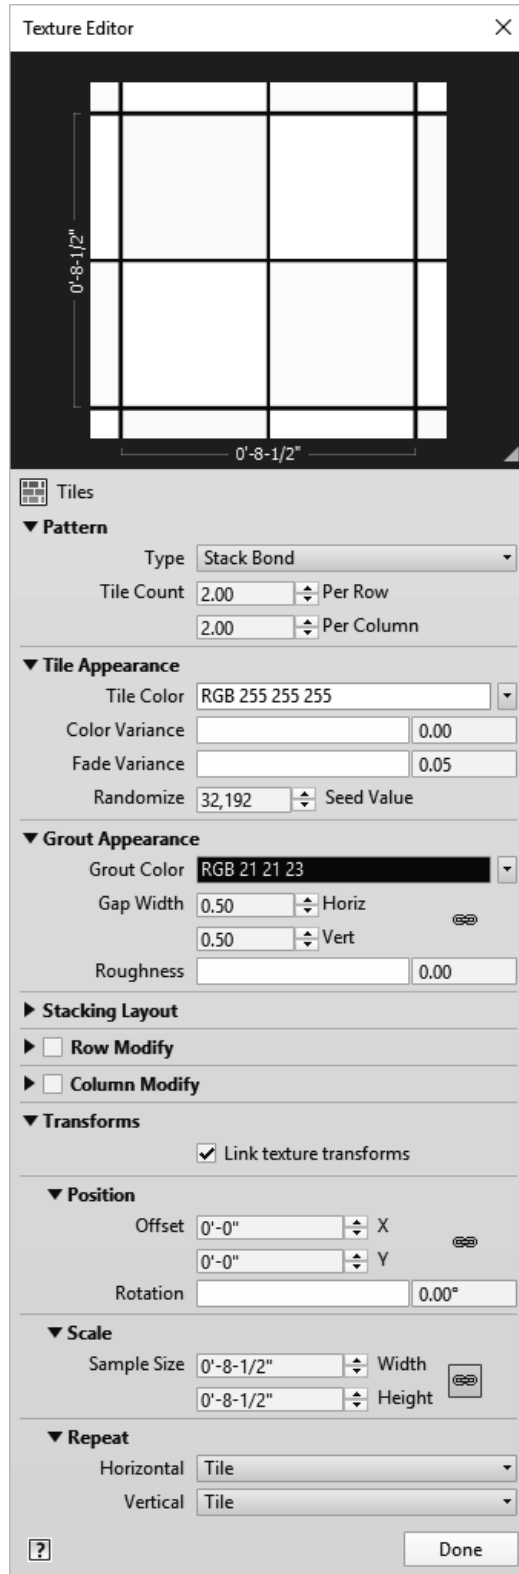

FIGURE 4-4.7 Texture Editor for relief pattern
25. Adjust the settings to match Figure 4-4.7.